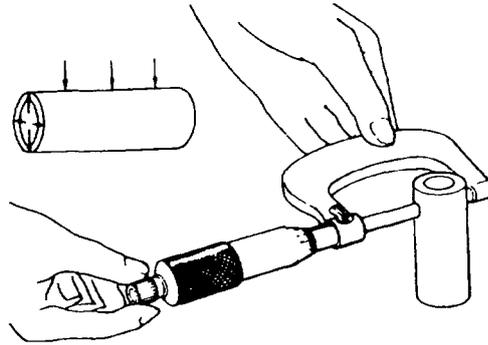

Figure 29 Measuring the Gudgeon Pin
- t. Measure the diameter of the gudgeon pin with a micrometer (Figure 29). The standard diameter is 35.0 mm (1.377 in) and the wear limit is 34.95 mm (1.375 in). Replace the gudgeon pin if wear exceeds the limit.